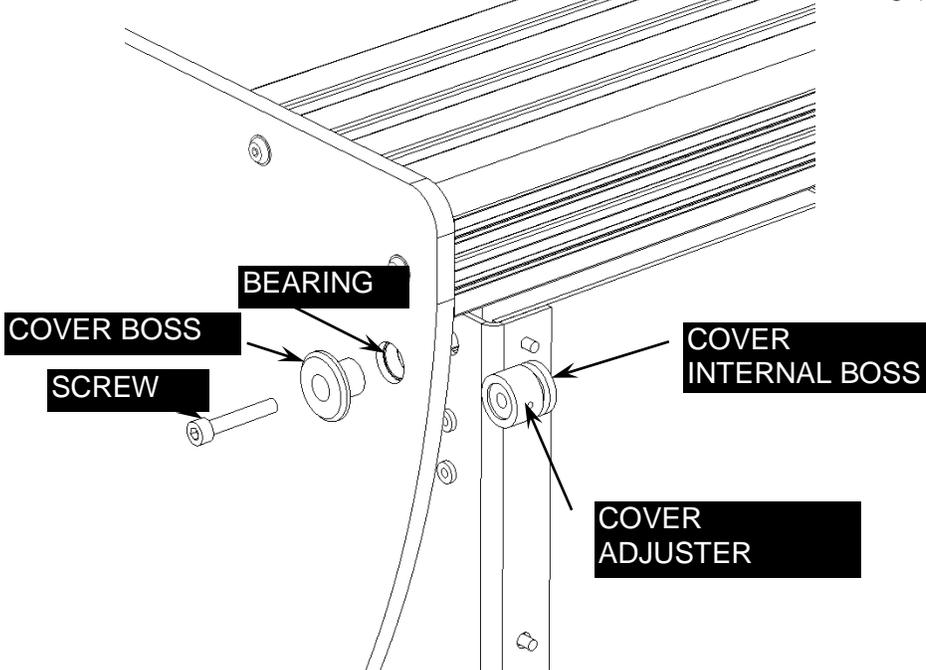

Figure 6-8: Cover Attachment Components
3. Fit a Cover Boss from the outside into the Cover Bearing (Figure 6-8).